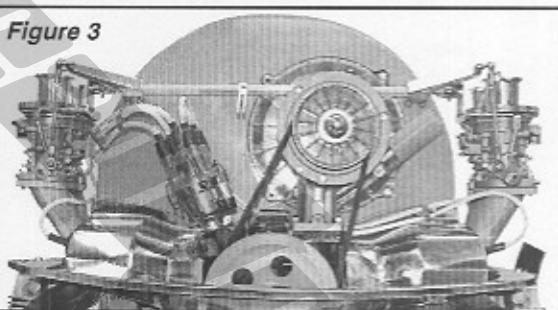

Figure 4
1. Install the linkage mount and air cleaner base (See Figure 4) (Leave off element and A/C top) on the left-side (Driver's Side) carburetor, using the lockwashers and nuts provided. (On some models stud removal may be necessary, go ahead and remove studs. Use short and long 6mm bolts and lockwashers that are supplied). **NOTE: DO NOT INSTALL THE RIGHT SIDE COMPONENTS AT THIS TIME, DUE TO THE LENGTH REQUIRED FOR THE HEX BAR TO SEAT PROPERLY IN THE BRACKET, THE RIGHT AND LEFT SIDE ASSEMBLY OF PARTS CANNOT BE DONE SIMULTANEOUSLY.**